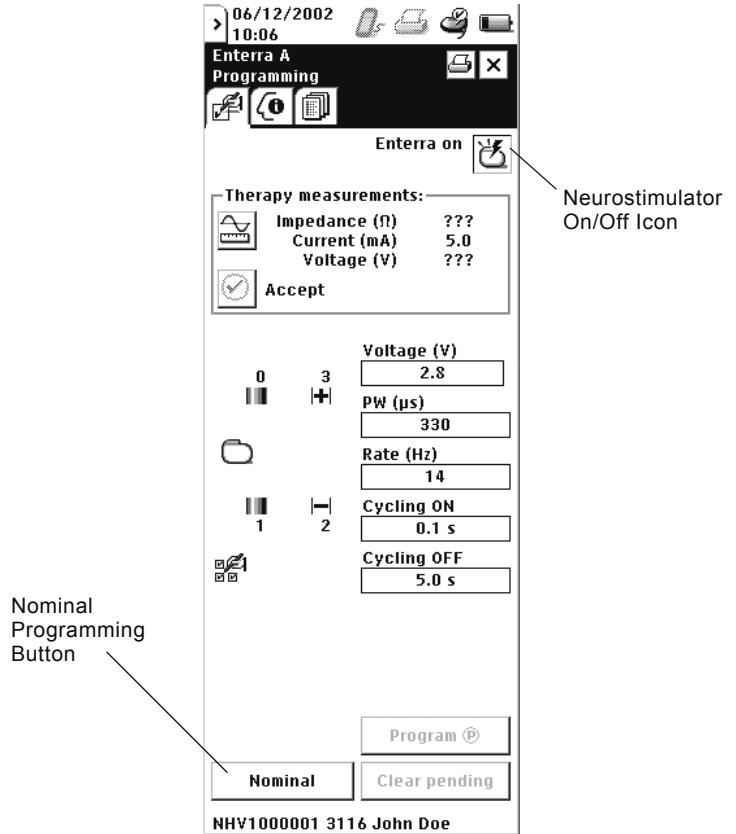

Figure 12. Program to nominal values.
1. Using the stylus select the **Nominal** button (Figure 12).